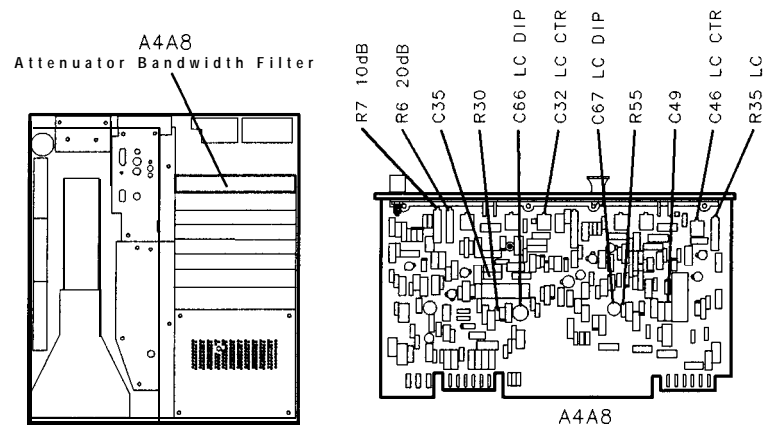

Figure 3-43.
29. Adjust A4A8C32 LC CTR and A4A8C46 LC CTR for maximum MARKER level as indicated by CRT annotation. See Figure 3-43 for location of adjustments. If unable to adjust A4A8C32 and A4A8C46 LC CTR adjustments for satisfactory signal amplitude, increase or decrease value of A4A8C35 and A4A8C49. Refer to Table 3-3 for range of values.
32. Adjust A4A8R35 LC to align markers on display. MARKER A level should indicate 1.00 X. See Figure 3-43 for location of adjustment.
47. Adjust A4A8R7 A10dB to align markers on display. MARKER A level should indicate 0.00 dB. See Figure 3-43 for location of adjustment.
49. Adjust A4A8R6 A20dB to align markers on display. MARKER A level should indicate 0.00 dB. See Figure 3-43 for location of adjustment.
65. Adjust **A4A8C66** LC DIP for minimum amplitude of signal peak. See Figure 3-43 for location of adjustment. Key in **MARKER** (PEAK SEARCH), **MARKER** **(Δ)**, and then press **MARKER** (PEAK SEARCH) and re-adjust LC DIP to offset the signal peak approximately -17 kHz (to the left). If unable to achieve a “dip” in signal amplitude, increase or decrease value of **A4A8R30**. Refer to **Table 3-3** for range of values.
67. Adjust **A4A8C67** LC DIP for minimum amplitude of signal peak. See Figure 3-43 for location of adjustment. Key in **MARKER** (PEAK SEARCH), **MARKER** [a, and then press **MARKER** (PEAK SEARCH) and re-adjust LC DIP again to offset the signal peak approximately -17 kHz (to the left). If unable to achieve a “dip” in signal amplitude, increase or decrease value of **A4A8R55**. Refer to **Table 3-3** for range of values.